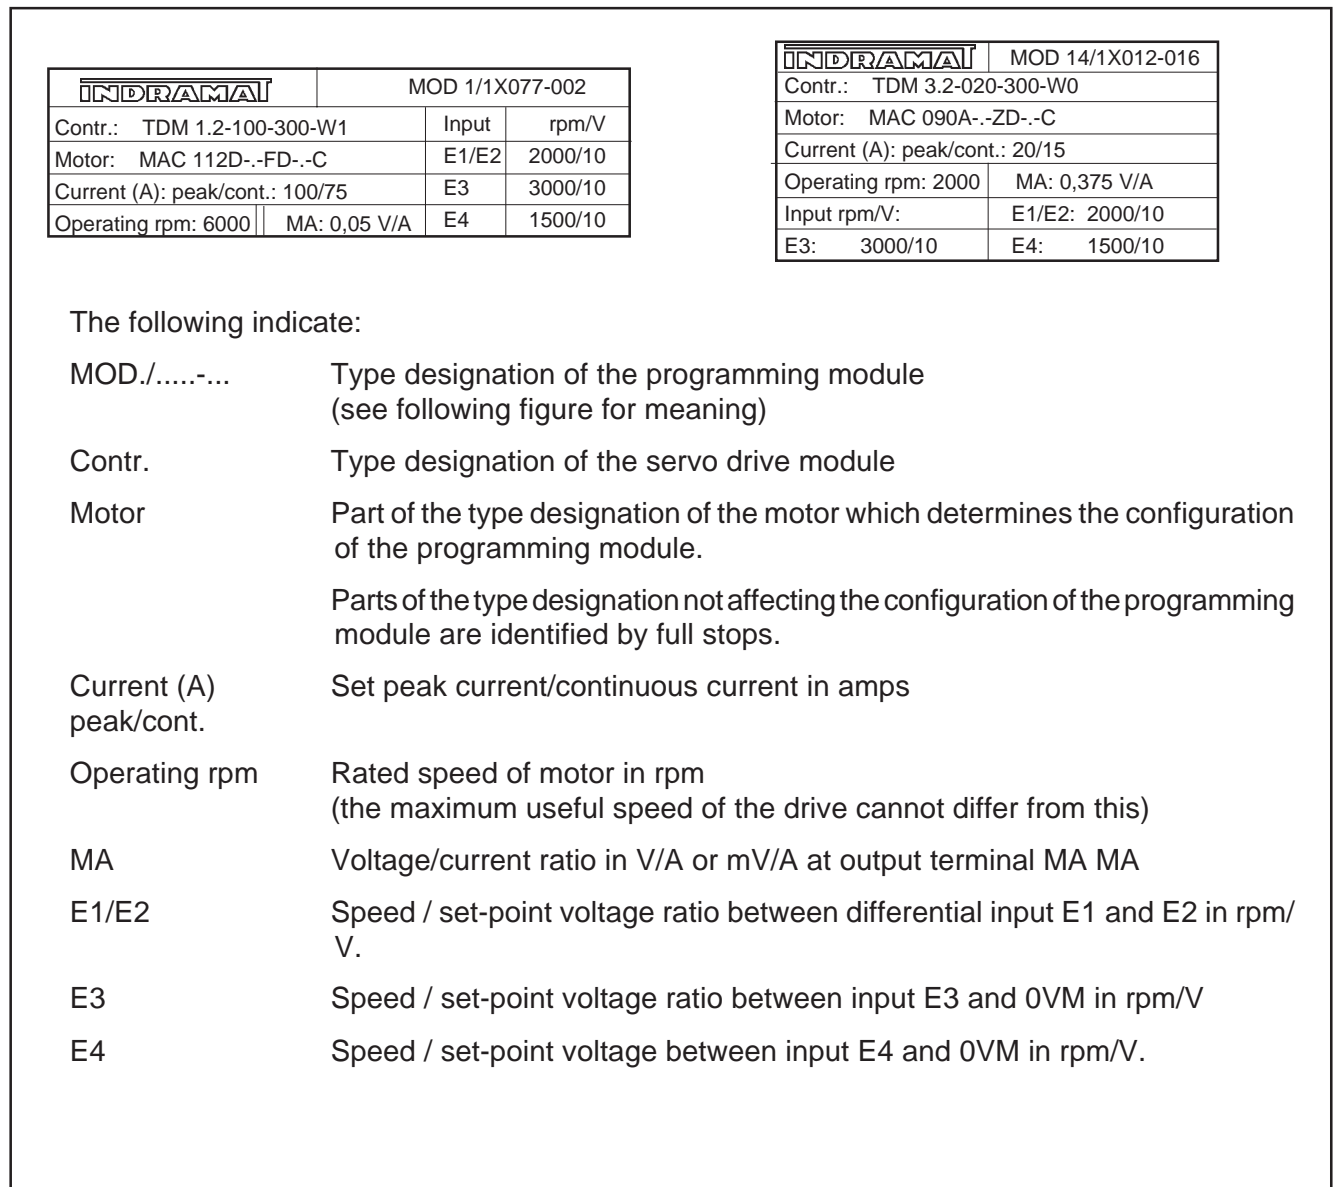

Fig. 17: Rating plate of MOD programming module
See Figs. 17 and 18 for rating plate details.
- Fig. 17 Rating plate of MOD programming module